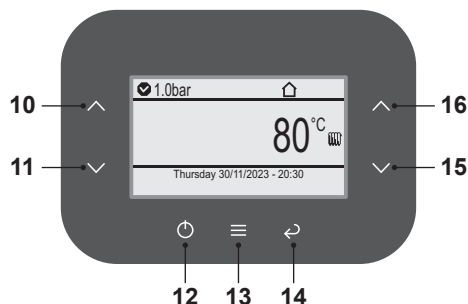
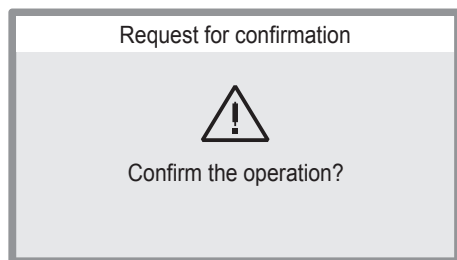

Fig. 8.40
Fig. 8.46
- Press key 13 (Fig. 8.40) to go to the main menu (Fig. 8.41).
- Press key 10 or 11 (Fig. 8.40) to select the desired menu (Fig. 8.42).
- Press key 13 (Fig. 8.40) to access the selected menu (Fig. 8.43).
- Press key 10 or 11 (Fig. 8.40) to select the desired menu (Fig. 8.44).
- Press key 13 (Fig. 8.40) again to highlight the value to be changed.
- Press key 13 (Fig. 8.40) to access the selected menu (Fig. 8.45).
- Press key 13 (Fig. 8.40) to access the selected menu (Fig. 8.46).
- Press key 13 (Fig. 8.40) again to confirm the RESET.
- Press key 13 (Fig. 8.40) to confirm the change or key 14 to exit without changing the value (return to previous level).